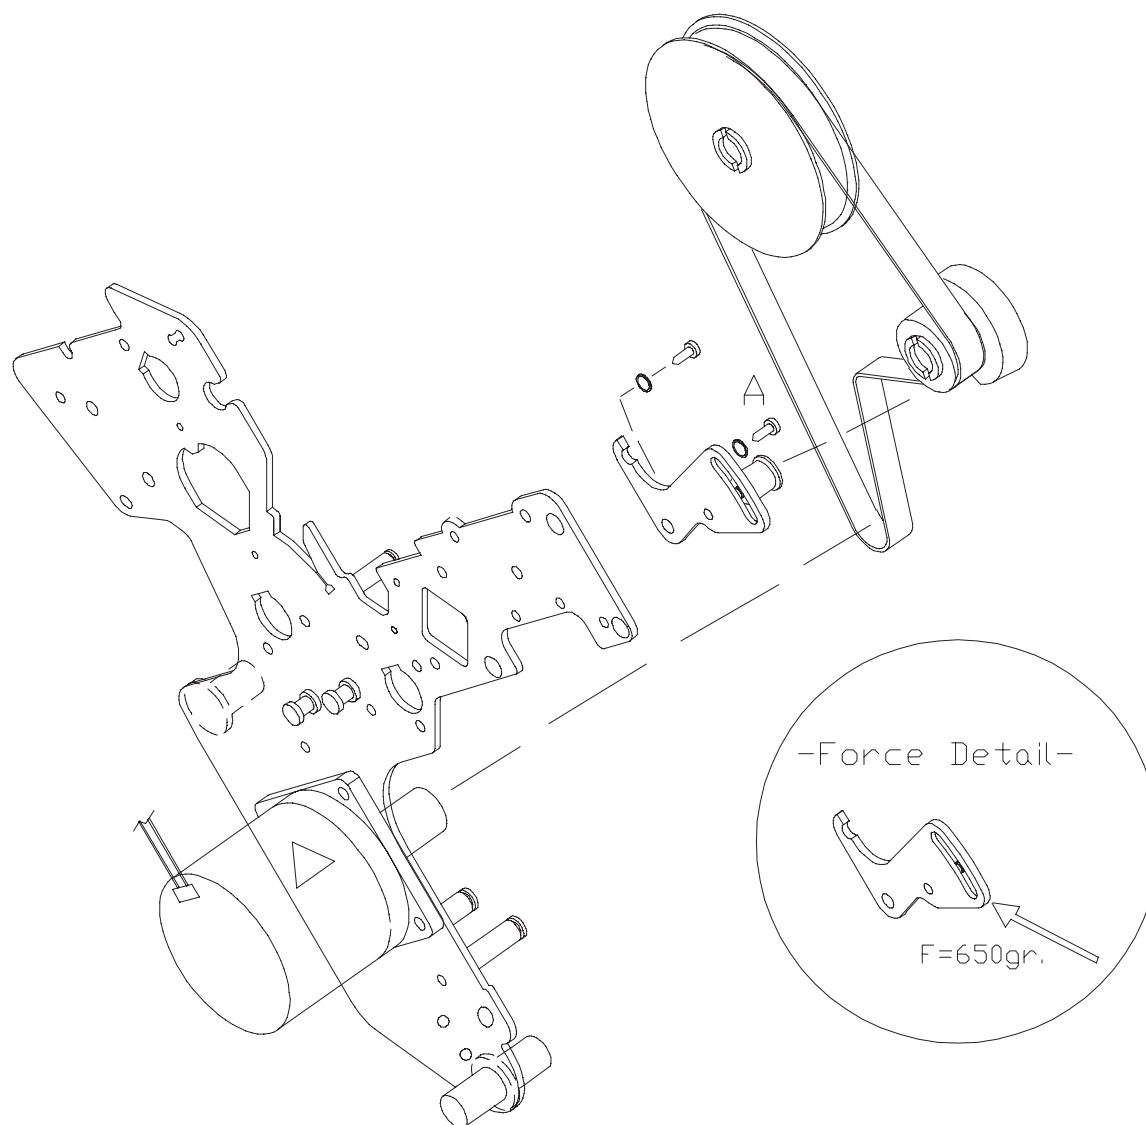

Figure 31. Paper Belt Adjustment
2. Apply the specified load on the hob of the lever with inward orientation, as shown in Figure 31 on page 89, and tighten the 2 screws to stretch the paper belt.